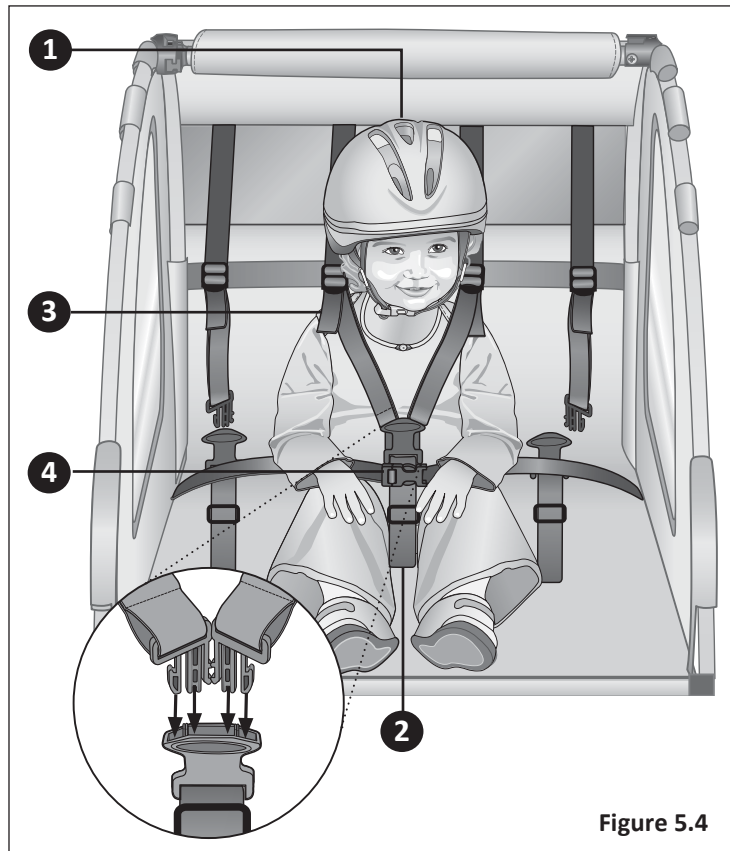

Figure 5.4
- 4 Bring the waste strap across the children's hips, and fasten the buckle. Tighten as needed. **Figure 5.4**